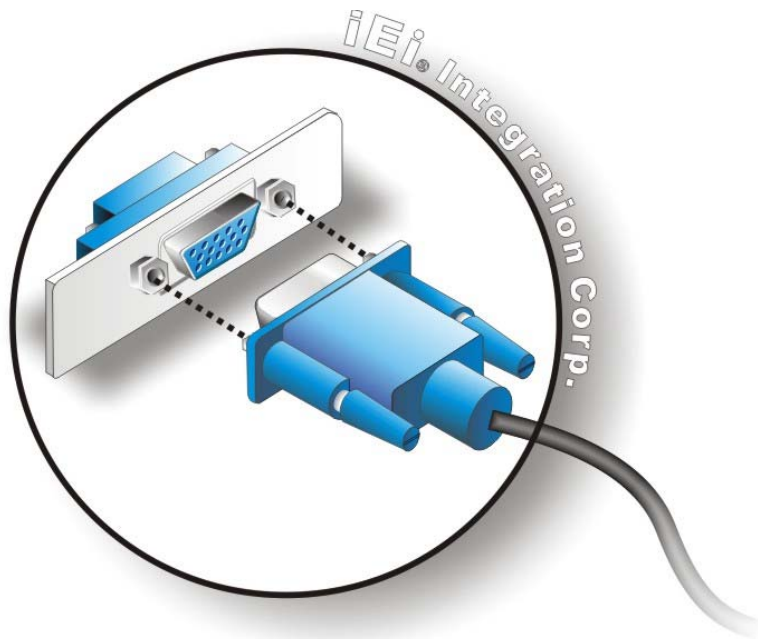

Figure 4-21: VGA Connector
- Step 3:** **Insert the VGA connector** Once the connectors are properly aligned with the insert the male connector from the VGA screen into the female connector on the SPCIE-C2260-i2. See **Figure 4-21**.